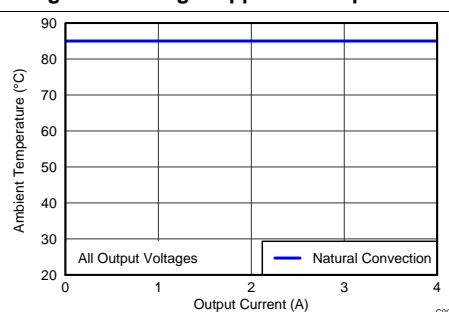

Figure 4. Safe Operating Area
- (9) The temperature derating curves represent the conditions at which internal components are at or below the manufacturer's maximum operating temperatures. Derating limits apply to devices soldered directly to a 100 mm x 100 mm double-sided PCB with 1 oz. copper. Applies to Figure 4.